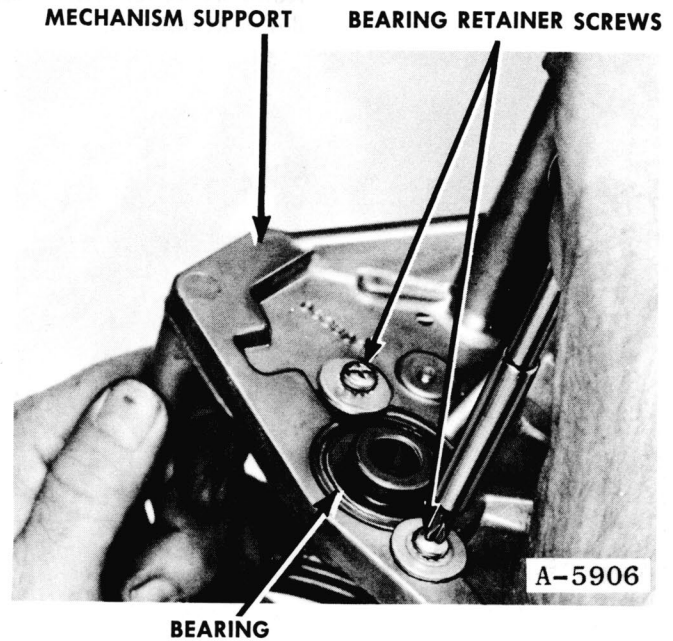

Figure 135
5. Remove the screws and bearing from the mechanism support, Fig. 135.